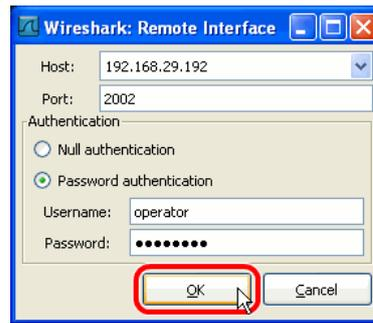

Figure 268: Wireshark Remote Interface Dialog.
4. Enter the correct settings for **Host** and **Port** (default 2002) and, if authentication is enabled, enter **Username** and **Password** in the corresponding fields as shown in Figure 268.